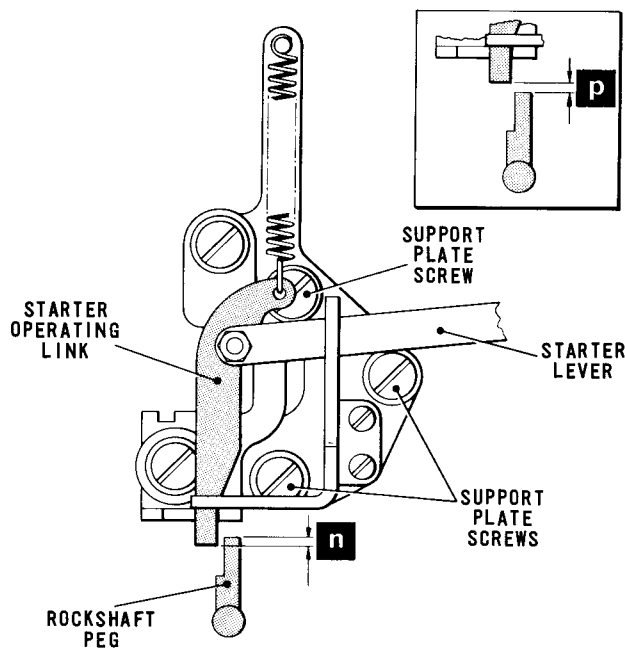
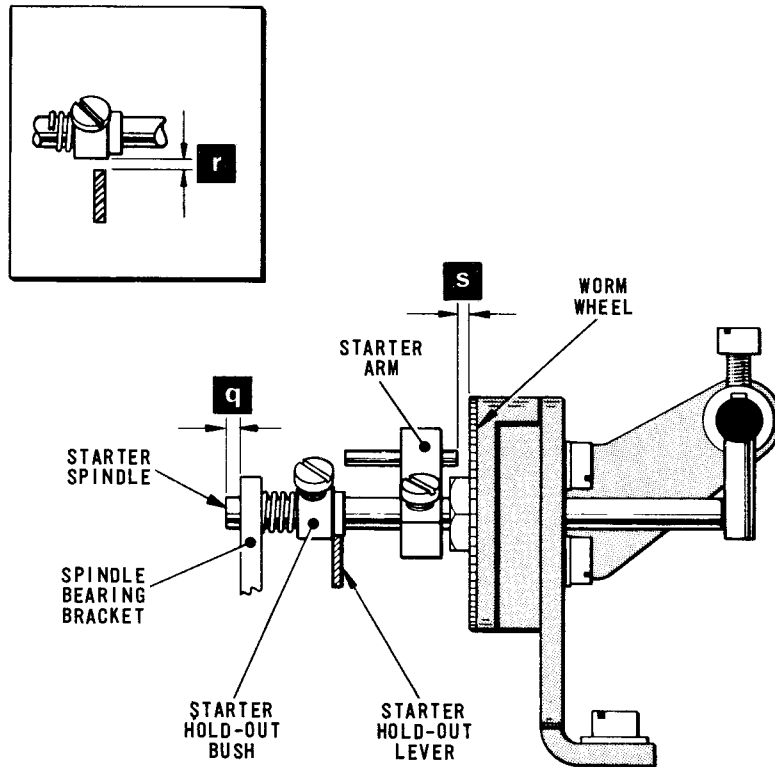

Fig. 4.10 STARTER SWITCH-OPERATING LINKAGE
Fig. 4.11 STARTER SWITCH-STARTER PIN/WORM WHEEL MECHANISM
- 13.1 Disengage the starter arm pin, Fig.4.11, from the worm wheel. Depress the starter arm as far as it will go so that the starter lever, Fig.4.10, is fully down. Check that there is now an engagement of .015 - .030 in. (dimension 'n') between the bottom end of the starter operating link and the peg on the rockshaft.
- 14.1 With the starter arm pin, Fig.4.11, fully engaged with the worm wheel, check that the left-hand end of the starter spindle protrudes through its bearing bracket by .015 - .030 in. (dimension 'q').
- 15.1 With the starter lever, Fig.4.10, in its uppermost position and with the starter arm pin, Fig.4.11, engaged in the worm wheel, check that the end of the starter hold-out lever is clear of the larger diameter of the shouldered bush by .004 - .008 in. (dimension 'r' - inset).
- 16.1 Disengage the starter arm pin, Fig.4.11, from the worm wheel and depress the starter arm as far as it will go. Check that the hold-out lever is now located against the shoulder of the bush, as shown in the figure, and that there is a clearance of .005 - .010 in. (dimension 's') between the end of the pin and the worm wheel.